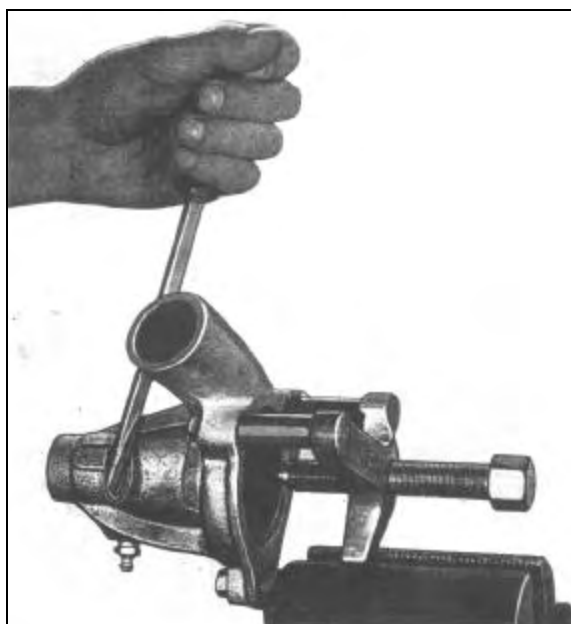

Figure 509—Removing Front Bearing Oil Seal
10. Pry out front bearing oil seal with screw driver. Figure 509.
11. With round pilot (4) still in position on screw, insert shaft (5) through front bearing and into hole in pilot (4). Put small horseshoe (6) in groove in shaft and tighten screw, forcing out